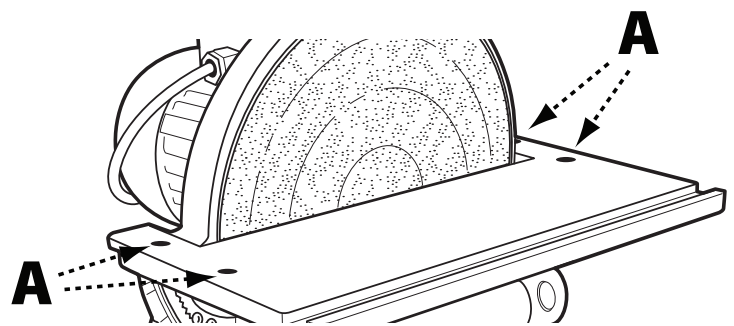

FIGURE 12
- Using the supplied hex wrench, loosen the four screws (B) indicated in Figure 12, which secure the table to the trunnions.